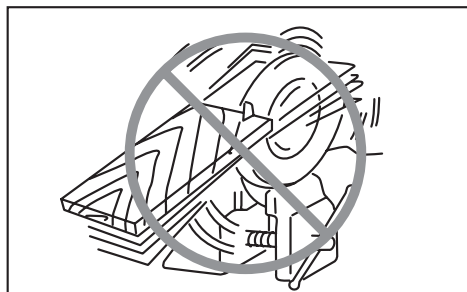

Fig. 7
17. **Never attempt to saw with the circular saw held upside down in a vise. This is extremely dangerous and can lead to serious accidents. (Fig. 7)**